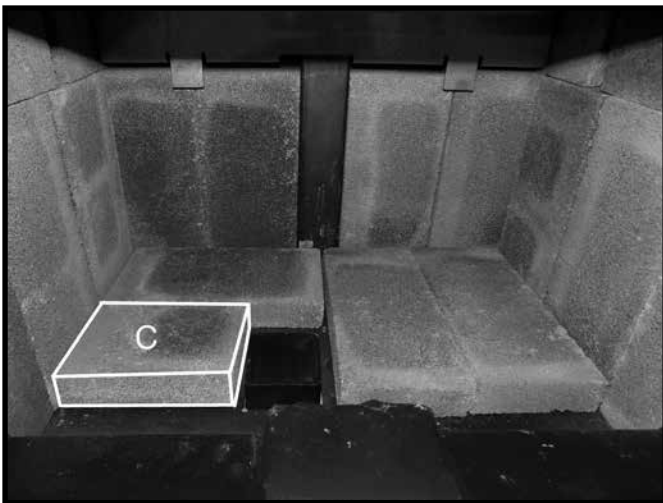

Figure 26. Fourth floor brick in place.
- Place the "C" firebrick so that it sits beside the ash dump, against the left-hand side wall and the "A" firebrick located directly behind the ash dump Figure 26. on page 16